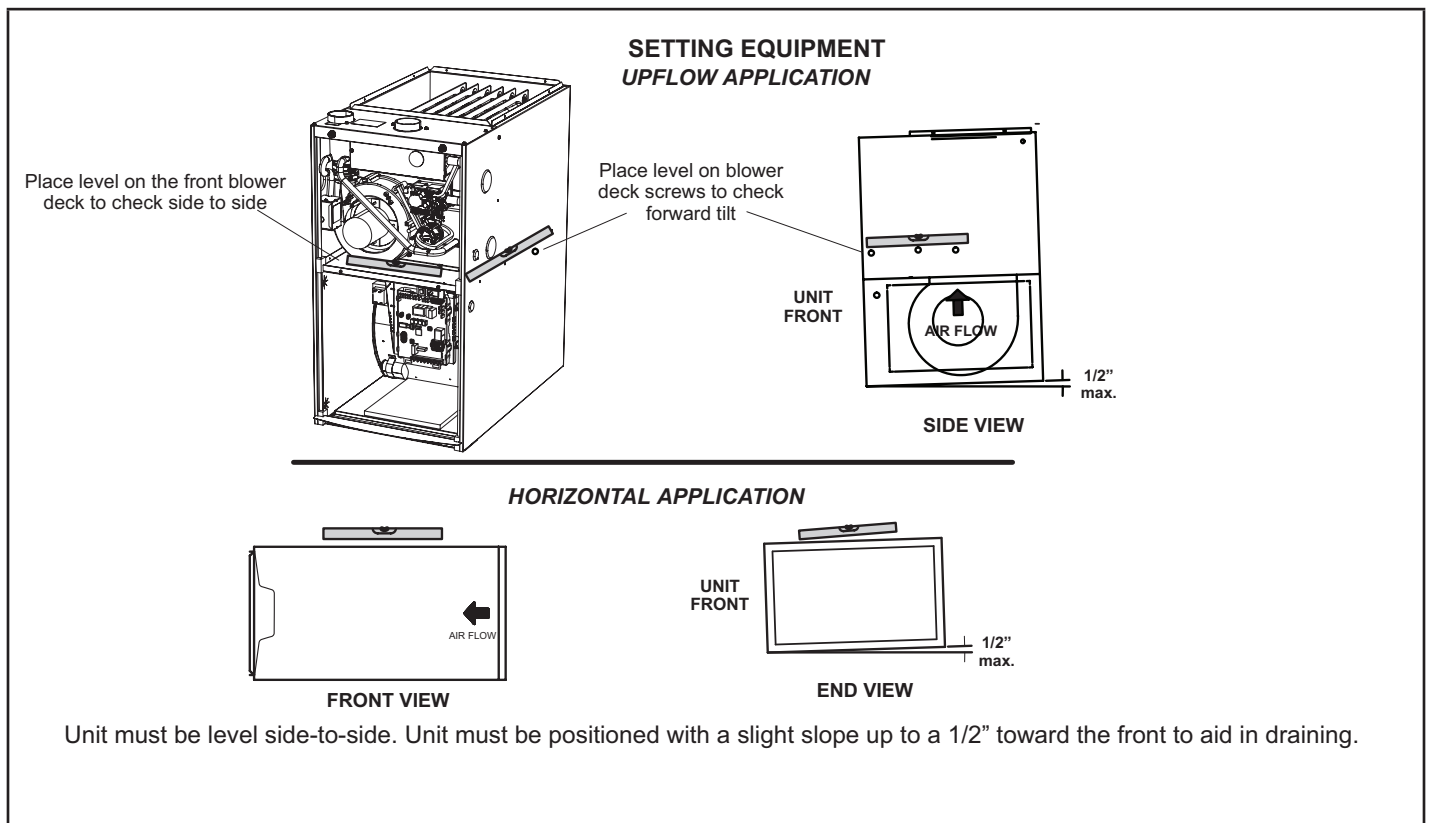
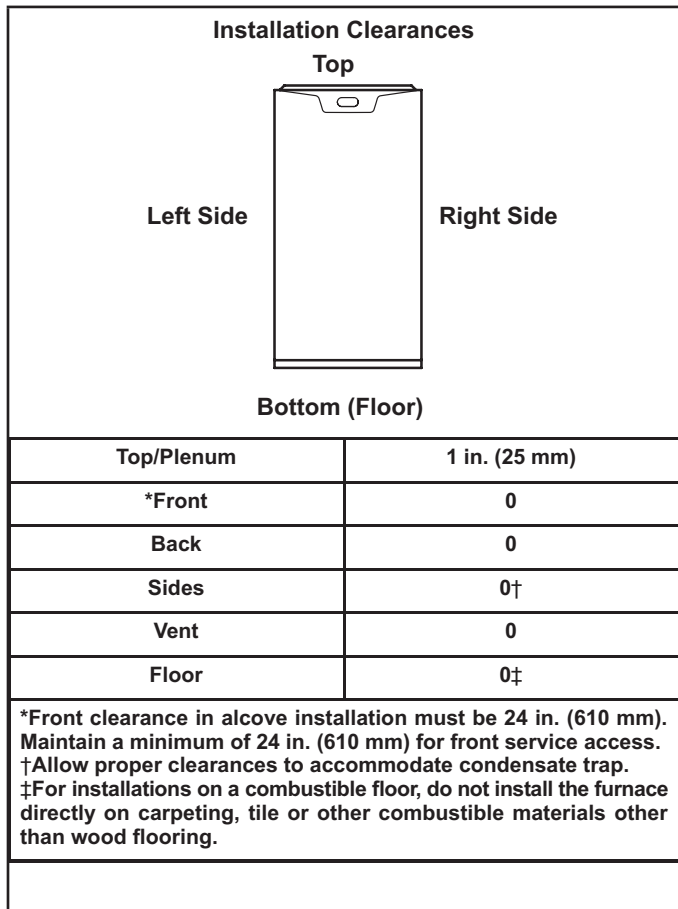
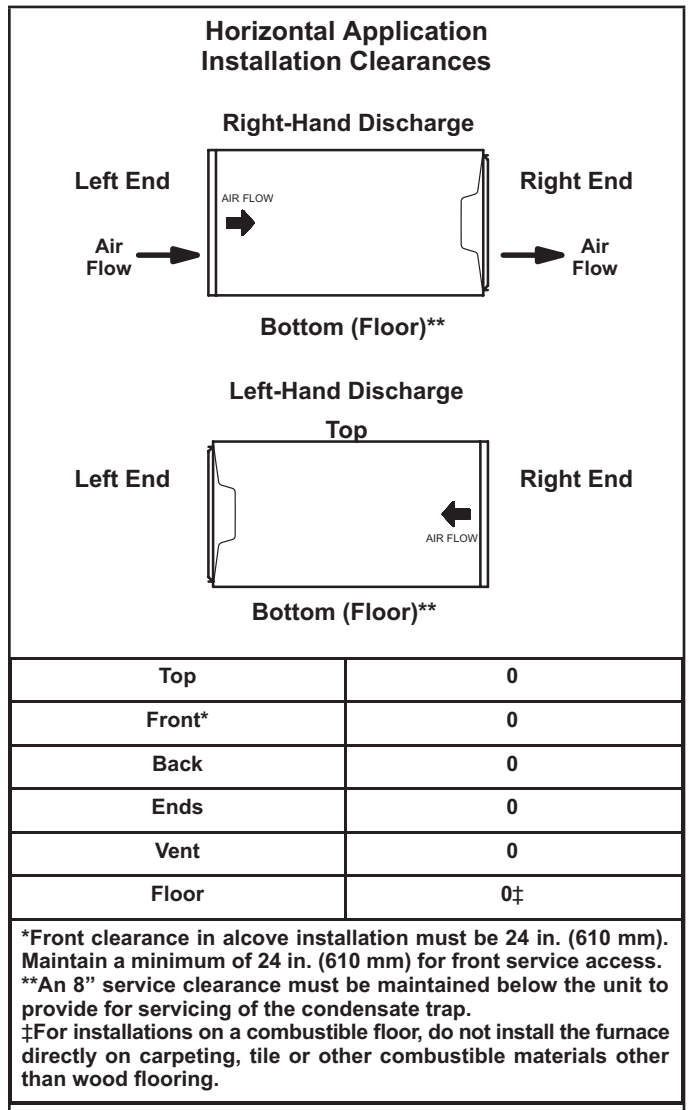

FIGURE 5
FIGURE 10
FIGURE 11
This furnace is designed for installation clearances to combustiblenaterial as listed on the unit nameplate and in the tables in FIGURE 10 and FIGURE 11. Accessibility and service clearances must take precedence over fire protection clearances.
The SLP99UHVK gas furnace can be installed as shipped in the upflow position. Refer to FIGURE 10 for clearances. Select a location that allows for the required clearances that are listed on the unit nameplate. Also consider gas supply connections, electrical supply, vent connection, condensate trap and drain connections, and installation and service clearances [24 inches (610 mm) at unit front]. ***The unit must be level from side to side. Unit must be positioned with a slight slope up to 1/2" toward the front to aid in draining. See FIGURE 5.***
Allow for clearances to combustible materials as indicated on the unit nameplate. Minimum clearances for closet or alcove installations are shown in FIGURE 10 and FIGURE 11.
The SLP99UHVK furnace can be installed in horizontal applications with either right- or left-hand air discharge. Refer to FIGURE 11 for clearances in horizontal applications
- 1 - Select location for unit keeping in mind service and other necessary clearances. See FIGURE 11.